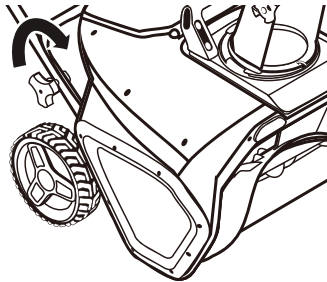

Fig. 3
3. Turn the locking knob clockwise to tighten. Do not over tighten. (See Fig. 3)